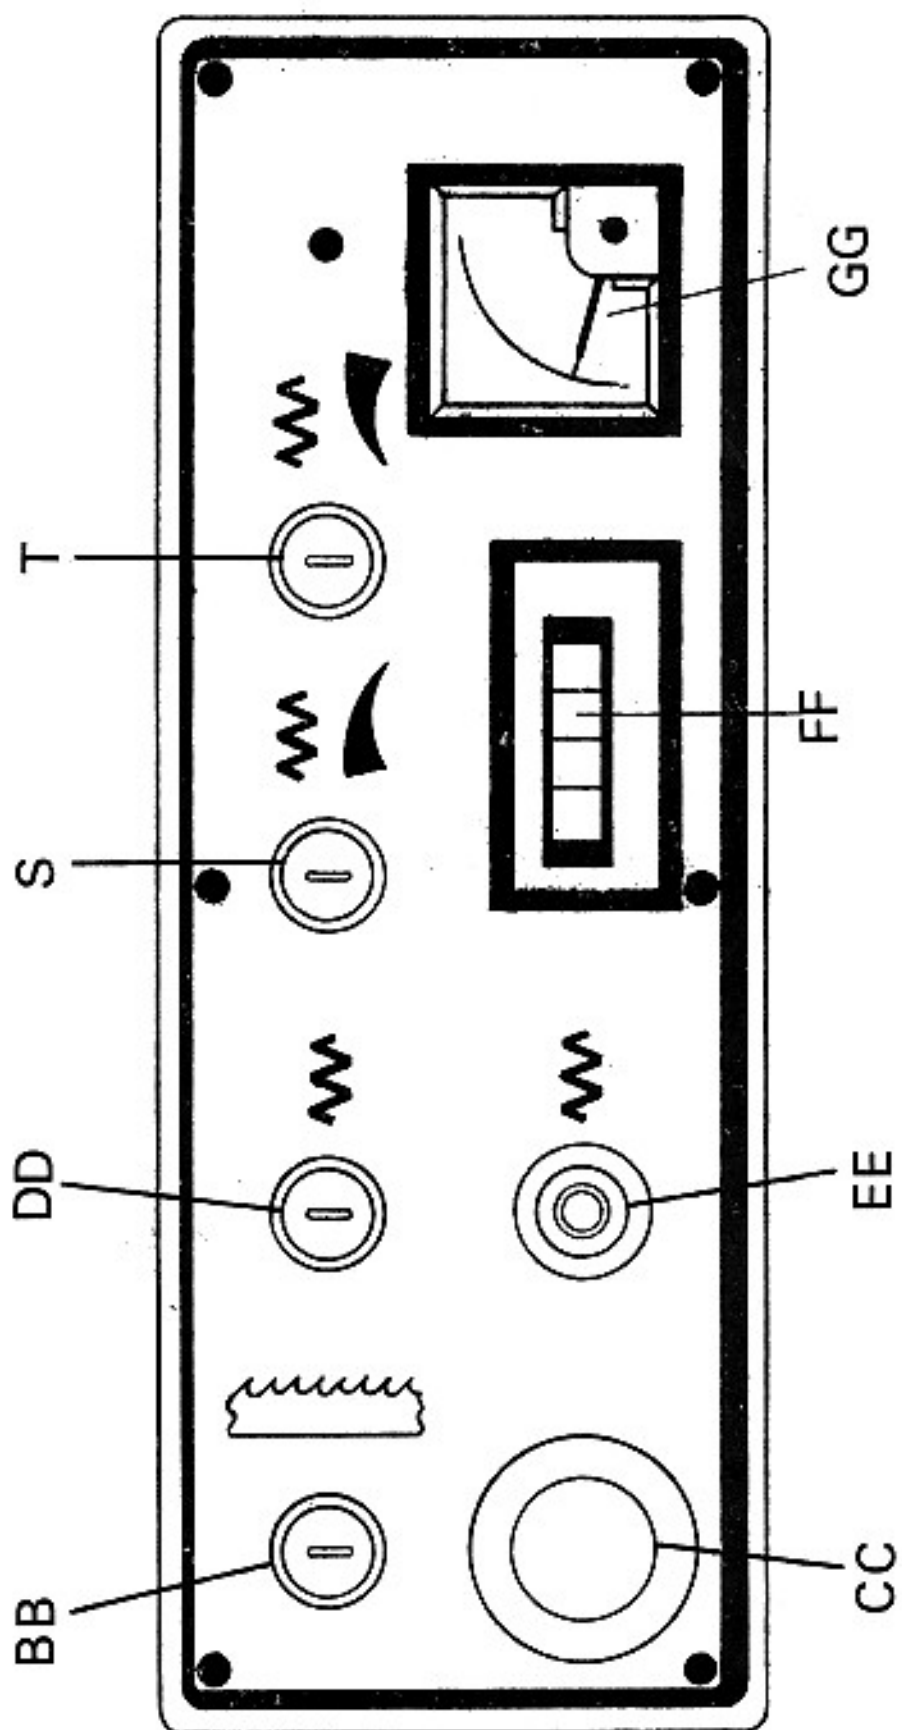

FIG 35
On the International Model the feed speed is controlled automatically by means of a servo unit. (Fig.35). Controls 'S' & 'T'
- 2) The stop / start buttons ('BB' & 'CC' Fig.35). control the saw motor and will not function unless the isolator is switched on.
- 3) The stop / start buttons ('DD' & 'EE' Fig.35) control the feed speed motor and will not operate unless the saw motor is running.
- 5) Control Panel master stop ('CC', Fig.35). when pressed will stop all electrical functions. To reset pull out the red stop button.
Button 'S' (Fig.35). will increase the feed speed
Button 'T' (Fig.35). will decrease the feed speed
- 7) Digital feed rate readout ('FF' Fig 35. where fitted) displays either metric (M/Min) or imperial (Ft/Min) depending on which is specified.
- 8) Ammeter ('GG' Fig.35. where fitted) will give indication of current absorption by the blade. The feed speed should be decreased if the current exceeds 25-30 amps until a suitable level is once more achieved. In general, a reading of 40-50 amps indicates the re-saw blade requires changing.